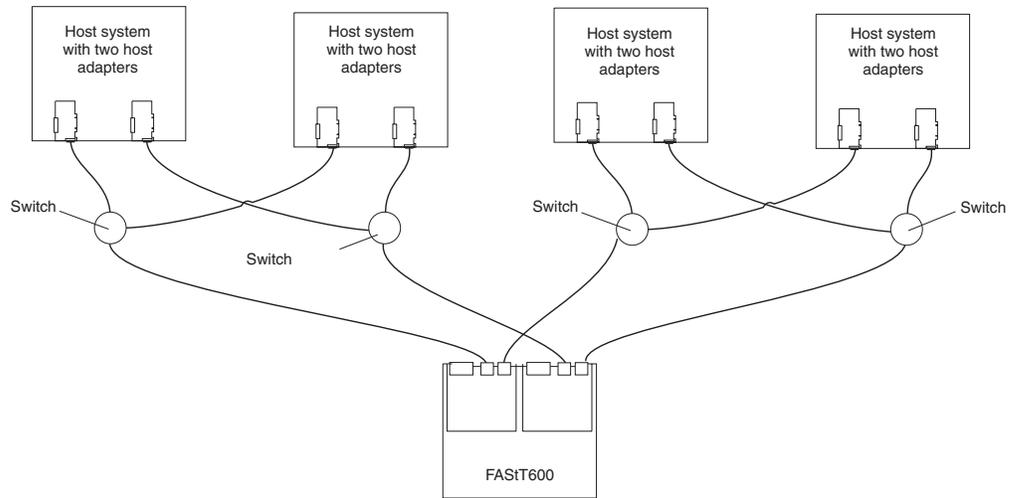

Figure 22. Two clusters configuration
- Two clusters, as shown in Figure 22 on page 25